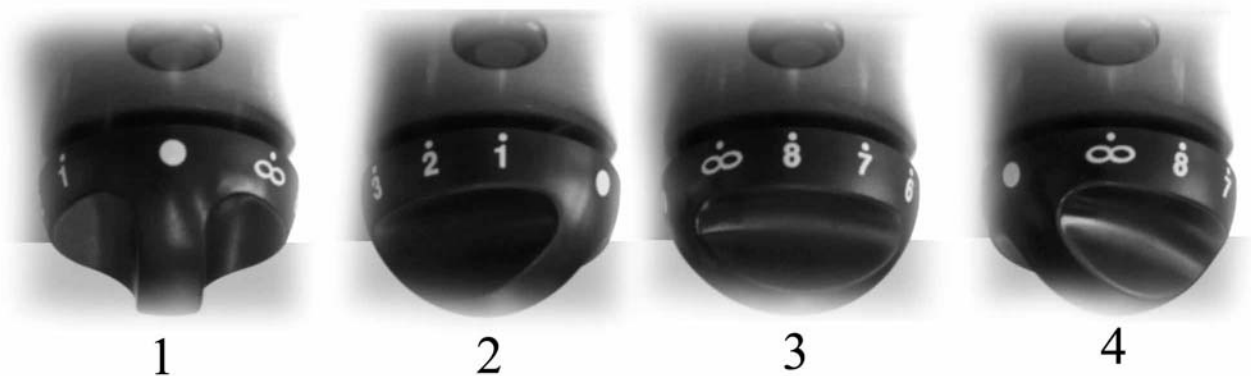

Fig. 3
If you turn the knob in item 1 in Fig. 3, the bottom of the tank starts heating with variable pulses that increase proportionally to your needs (the bottom of the tank is constantly heated in item 4 in Fig. 3).;